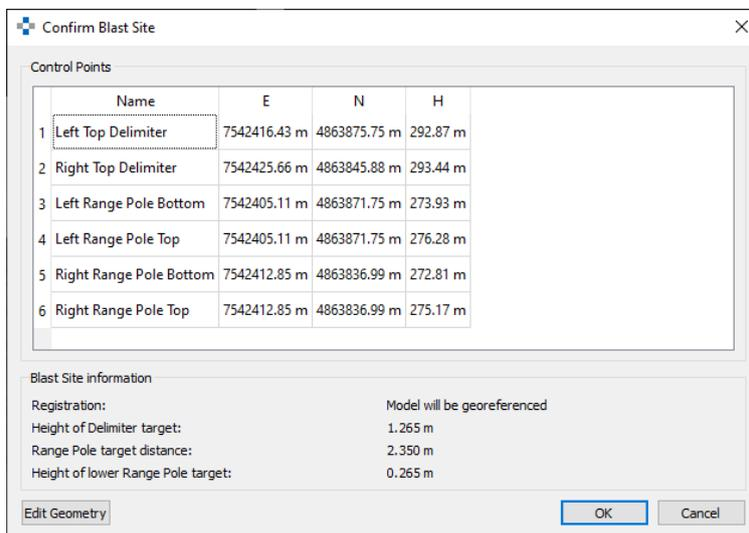

Figure 24: Confirm Blast Site dialog
7. Check the correct scaling mode, heights and distances in the *Confirm Blast Site* dialog (see Figure 24). If the parameters are incorrect, click on the **Edit Geometry** button and the change the values in the *Marker Geometry* dialog.